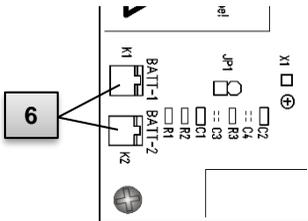

Fig. 26
8. Close the housing using the four screws provided (Fig. 26 2)